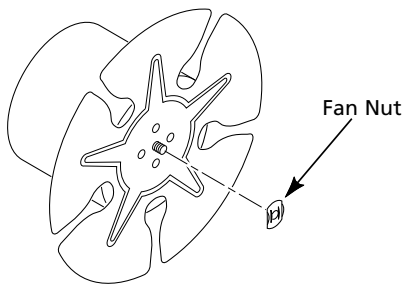

Figure 12 - Removing Fan Nut From Motor Shaft
- Use pliers to remove the fan nut from front of motor shaft (See Figure 12).